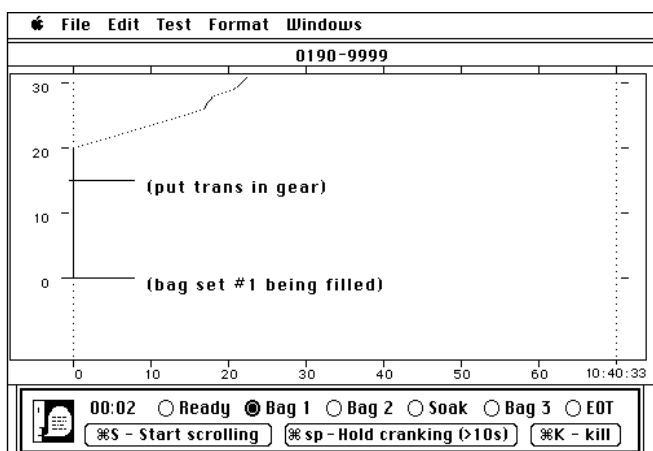

Figure 16
- 410 If the engine starts and continues to run, start the VDA trace scrolling by pressing <Command-S>, following the instructions at the bottom of the screen. See Figure 16.